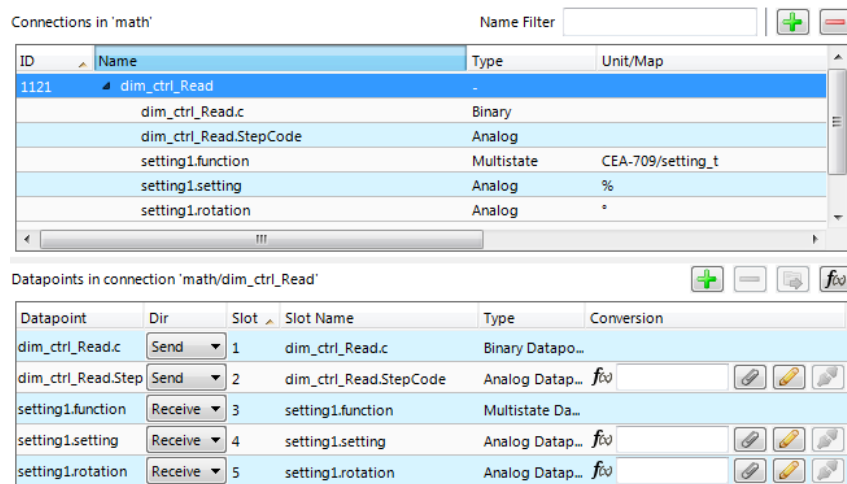

Figure 83: Multi-slot connection for math block adapter.
2. Add output slots to the multi-slot connection by adding a structured output data point. An example is shown in Figure 83.